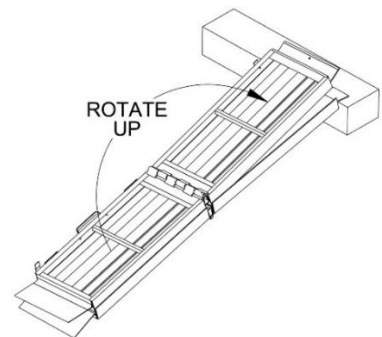

FIG. 2
3. Unfold the second top half of the ramp so that both halves are fully extended lengthwise, with one half positioned face down on top of the other (FIG. 2).